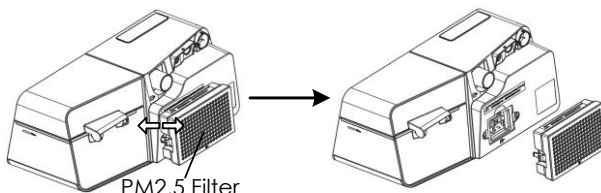

Fig. 18-9
(3) Disassemble the PM2.5 Filter from the device, as shown in Fig. 18-9, then change a new one.